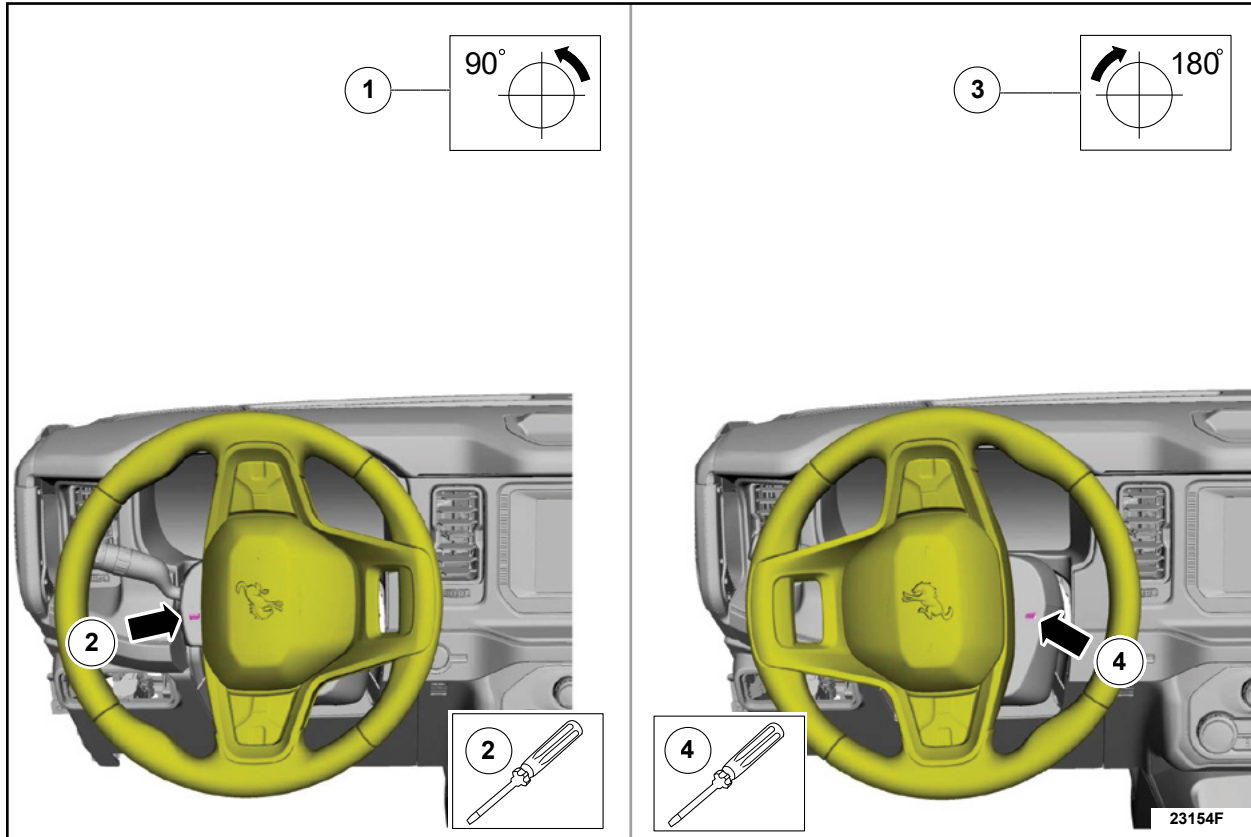

FIGURE 3
2. Release the upper steering column shroud front clips. See Figure 3.